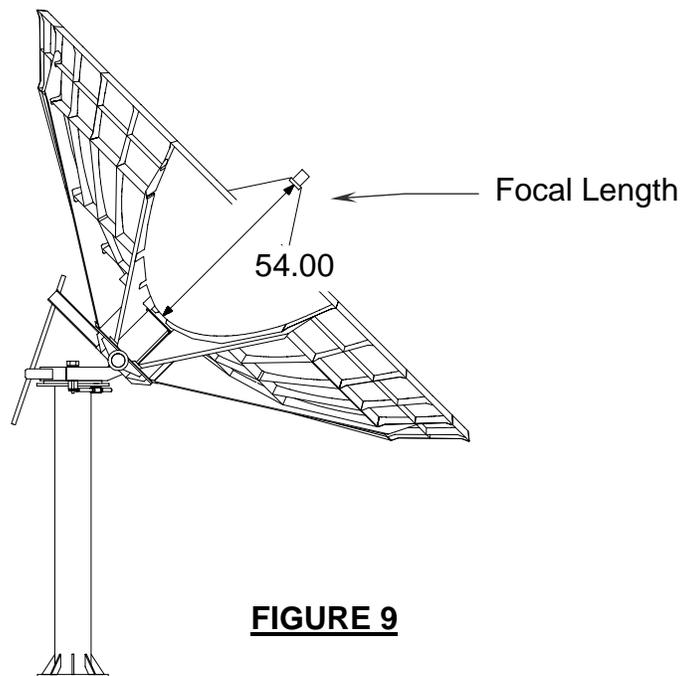

FIGURE 9
1. **FOCAL LENGTH** - As shown in figures 6 thru 8, attach the feed horn assembly to the four feed rods with the same 3/8" hardware as above. Tighten the four bolts securely at this time. Check the focal length by measuring from the face of the feed horn to the reflector cover plate as shown in figure 9. If the focal length is incorrect, adjust the feed clevises in or out at the reflector surface as needed. Be sure that the clevises are adjusted equally. When the focal length is correct, tighten all feed support and clevis hardware securely.